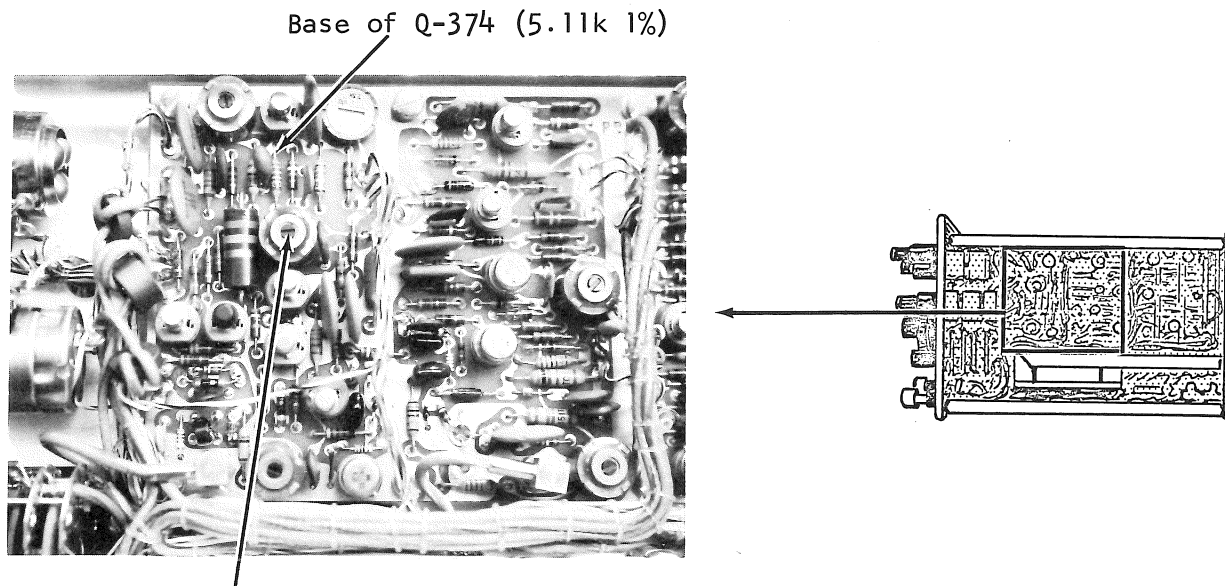
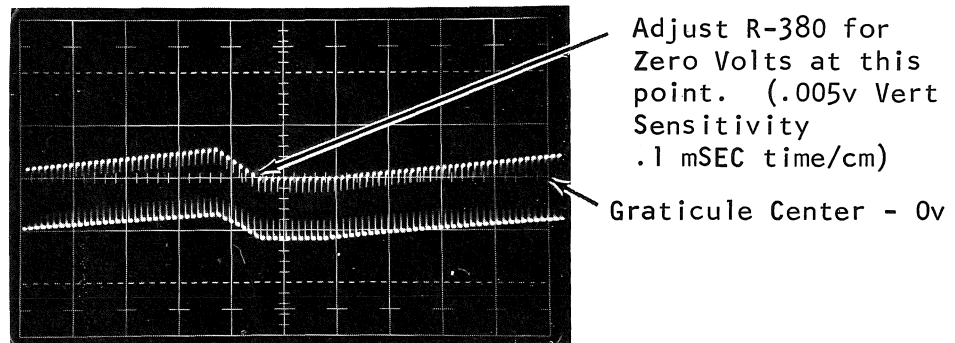

Figure 5-15
Figure 5-16
1. Remove the test scope probe from the emitter of Q-283 and connect it to the base of Q-374 (see figure 5-15).
- c. Adjust the triggering for a stable display. The display on the test scope should now be similar to figure 5-16.
3. Adjust R-380 (refer to figure 5-15) so the top of the waveform at the end of the staircase retrace is zero volts (refer to figure 5-16).